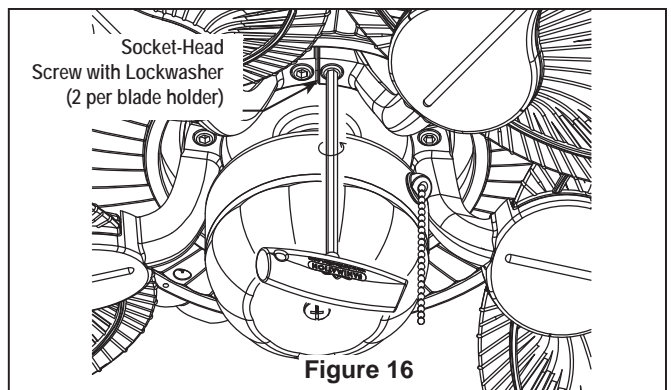

Figure 16
- 3. Attach blade holders to the bottom of the fan motor hub using the 1/4-20 x 5/8" socket head screws w/lockwashers. Make sure the screws with lockwashers securing the blade holders to the fan motor hub are tight and that the blade holders are properly seated. (Figure 16)